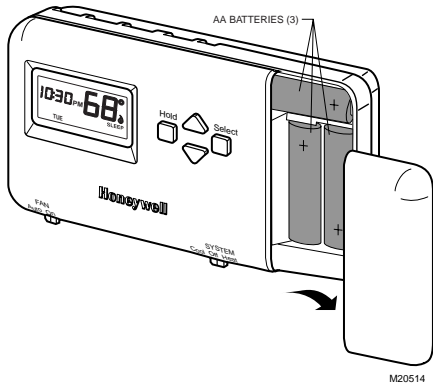

Fig. 13. Installing batteries.
- Remove the battery door, located on the right side of the thermostat, by pulling outward from the bottom. See Fig. 13.
- Insert three AA alkaline batteries as shown in Fig. 13.